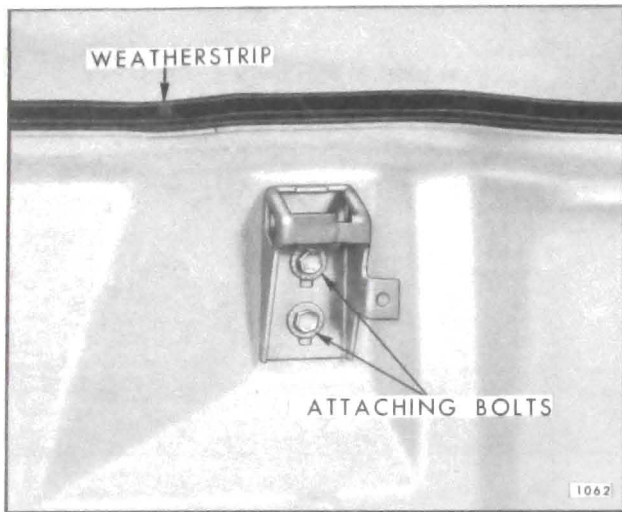

Fig. 8-16 - Engine Compartment Lid Latch Striker
2. Remove attaching bolts and remove striker from body (See Fig. 8-16).